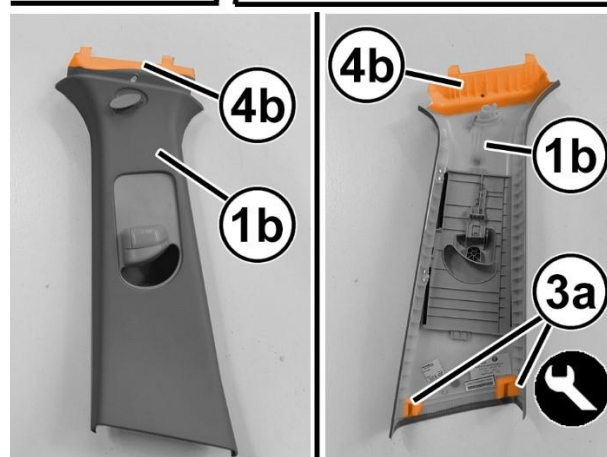

Figure 13 – B-Pillar Trim
36. Release the cover (1a) of the B-pillar trim (1b) and remove the screw (2a) (Figure 13).
37. Release the lower retainers (3a) of the B-pillar trim (1b) using a trim stick C-4829A (1823015000) or equivalent (Figure 13).
38. Working carefully and making sure not to bend the roof lining (4a), lower the B-pillar trim (1b), releasing it from its retaining profile (4b) (Figure 13).
19. Operating carefully and making sure not to bend the roof lining (4a), insert the profile (4b) of the B-pillar trim panel (1b) into the housing (Figure 13).
20. Engage the lower inner retainers of the B-pillar trim panel then install and tighten the screw and engage the screw cover (Figure 13).